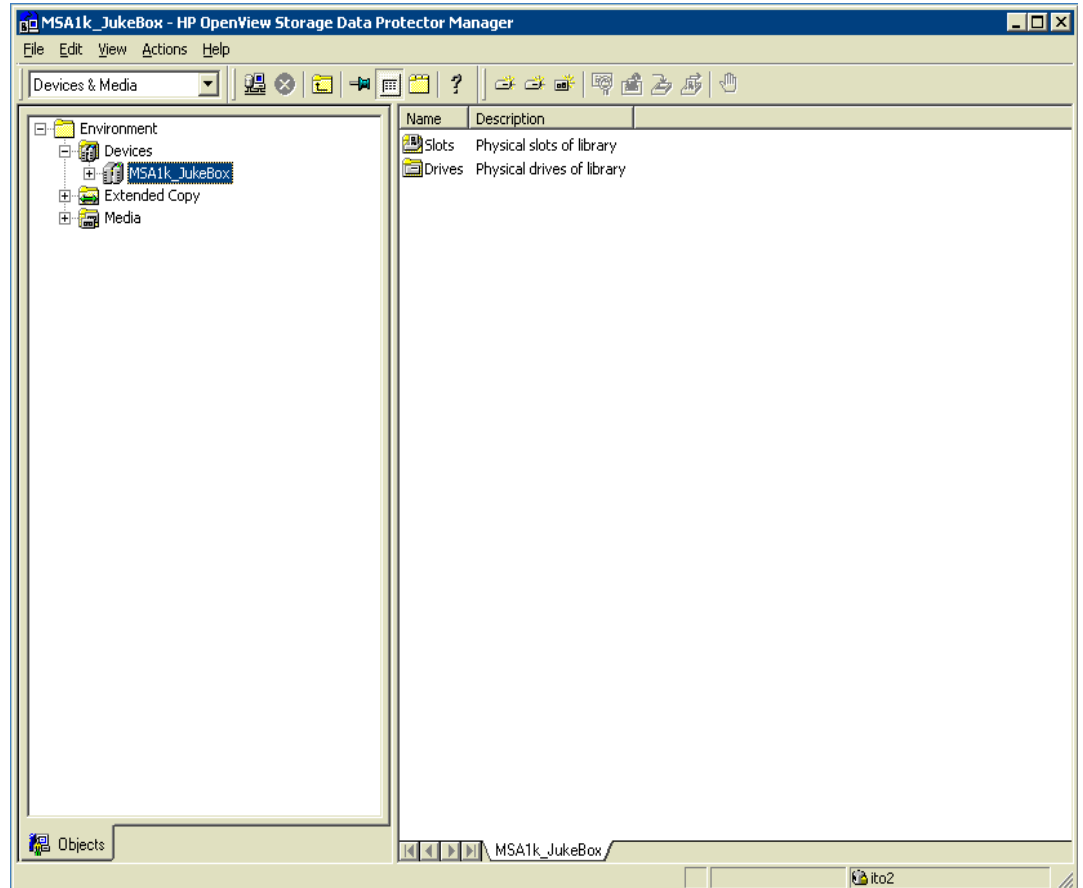

figure 9
17. When you are done adding drives to the jukebox, the screen should look similar to Figure 9.